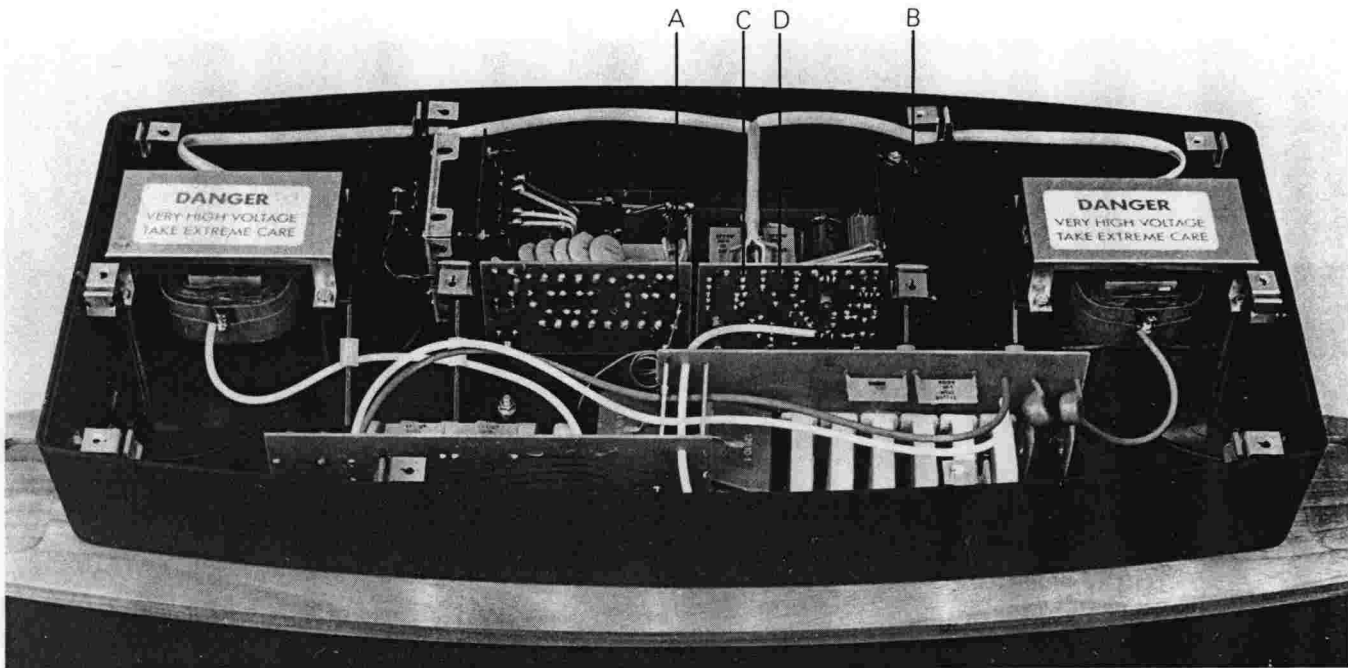

Fig. 5
Contact with the EHT path should be avoided both when the loudspeaker is connected to or recently disconnected from the AC supply volts. If the nature of the test being carried out necessitates contact the EHT should first be discharged by short circuiting point A (Fig. 5) to earth, with AC supply volts disconnected. In each of the following tests the loudspeaker is taken to be standing upright in its completed form unless otherwise stated.
Measure the volts across the points labelled A and B in Fig. 5 which should be between 5 and 5.3 kV.
- (b) To check that the clamp circuit is functioning correctly, points C and D Fig. 5 should be connected to the input of the oscilloscope.